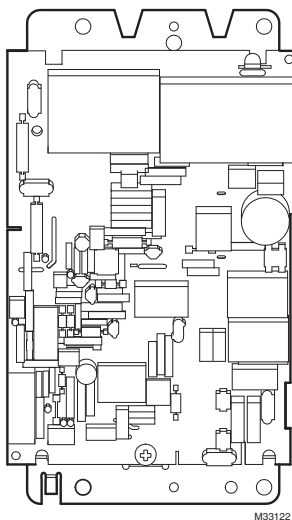

Fig. 17. Replace sheet metal radio interference shield on F59.
- ❑ When replacing the power supply in a F59 reinstall the sheet metal radio interference shield as shown in Fig. 17.